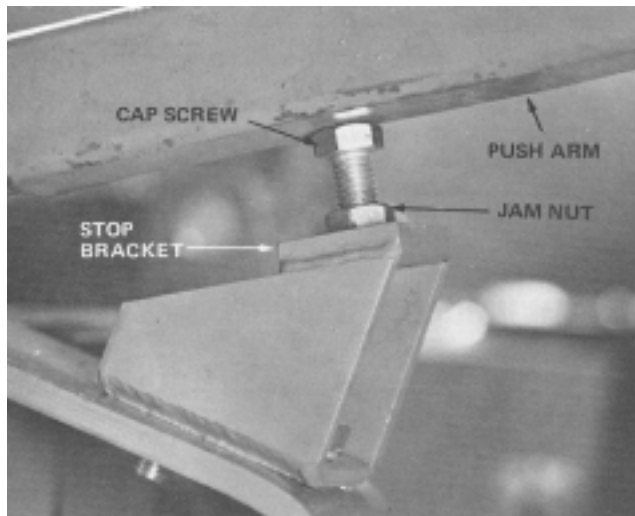

Figure 10
1. With plow contacting flat surface, adjust stop bracket capscrew (Fig. 10) upward against push arm—until front of plow begins to move up: then bottom jam (Fig. 10) against stop bracket.